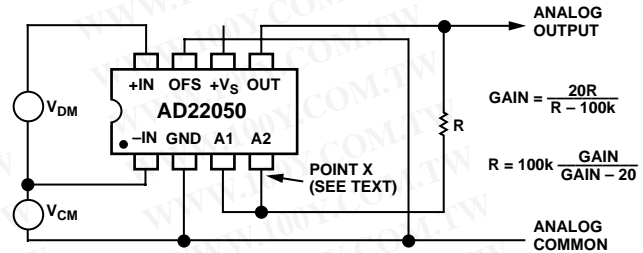
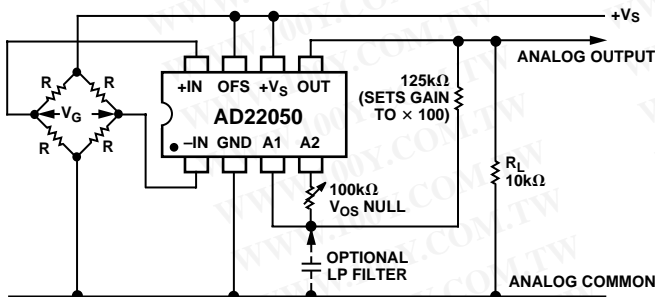

Figure 5. Achieving Gains Greater Than  $\times 20$
Figure 12. Typical Connections for a Strain Gage Interface Using the Offset Feature
**Increasing the Gain.** The gain can be raised by connecting a resistor from the output of the buffer amplifier (Pin 5) to its noninverting input (Pin 4) as shown in Figure 5. The gain is
Once again, a small offset voltage will arise from an imbalance in source resistances and the finite bias currents inherently present at the input of A2. In most applications this additional offset error (about  $130 \mu\text{V}$  at  $\times 40$ ) will be comparable with the specified offset range and will therefore introduce negligible skew. It may, however, be essentially eliminated by the addition of a resistor in series with the parallel sum of  $\text{R}$  and  $100 \text{ k}\Omega$  (i.e., at "Point X" in Figure 5) so the total series resistance is maintained at  $100 \text{ k}\Omega$ . For example, at a gain of  $\times 30$ , when  $\text{R} = 300 \text{ k}\Omega$  and the parallel sum of  $\text{R}$  and  $100 \text{ k}\Omega$  is  $75 \text{ k}\Omega$ , the padding resistor should be  $25 \text{ k}\Omega$ . A  $50 \text{ k}\Omega$  pot would provide an offset range of about  $\pm 2.25 \text{ mV}$  referred to the output, or  $\pm 75 \mu\text{V}$  referred to the attenuator input. A specific example is shown in Figure 12.
If the gain is raised using a resistor, as shown in Figure 5, the corner frequency is lowered by the same factor as the gain is raised. Thus, using a resistor of 200 k $\Omega$  (for which the gain would be doubled) the corner frequency is now 0.796 Hz $\cdot\mu$ F, (0.039  $\mu$ F for a 20 Hz corner).
The AD22050 can be used to interface a strain gage to a subsequent process where only a single supply voltage is available. In this application, the midscale offset feature is valuable, since the output of the bridge may have either polarity. Figure 12 shows typical connections.
An ac excitation of up to  $\pm 2$  V can also be used because the common-mode range of the AD22050 extends to  $-1$  V. Assuming a full-scale bridge output ( $V_G$ ) of  $\pm 10$  mV, a gain of  $\times 100$  might be used to provide an output of  $\pm 1$  V (a full-scale range of +1.5 V to +3.5 V). This gain is achieved using the method discussed in connection with Figure 5. Note that the gain-setting resistor does not affect the accuracy of the midscale offset. (However, if the gain were lowered, using a resistor to ground, this offset would no longer be accurate.) A  $V_{OS}$  nulling pot is included for illustrative purposes. One-, two- and three-pole filtering can also be implemented, as discussed in the Low-Pass Filtering section.
A unique method of feedback around A1, provided by R9 and R7, sets the closed-loop gain of the preamplifier to  $\times 10$  (from the input pins). The feedback network is balanced by the inclusion of R6 and R8. The small value of R7 results in a more practical value for R9 (which would have to be 2 M $\Omega$  if the feedback were taken directly to the inputs of A1). R8 is not directly connected to ground, but to an optional voltage of one half that is applied to Pin 7 (OFS). It is trimmed to within close tolerances through R10 and R11. This allows the output of A1 to be offset to midscale, typically  $+V_S/2$ , by tying Pins 6 and 7 together. (For an example of the use of this feature, see Figure 12.) The gain is adjusted by the single resistor R5, which acts only on the differential signal. More importantly, it also results in much less feed forward of the common-mode signal to the output of A1, which, being a single-supply circuit, has no means of pulling this output down toward ground in those circumstances where the common-mode input is very positive while the net differential signal is small. (The output of A1 is the collector of a PNP transistor whose emitter is tied to  $+V_S$ .) R16 is specifically included to alleviate this problem.